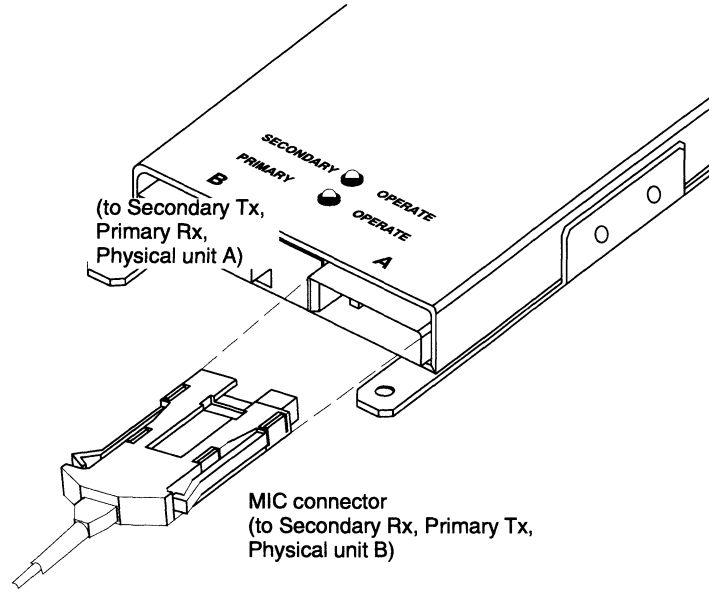

Figure 4-51 Attaching Optical Bypass Switch MIC Connectors
4. Connect the optical bypass switch to the FDDI ring by attaching the appropriate cables between the next device and the MIC receptacles on the optical bypass switch, as shown in Figure 4-51. Note that the MIC connectors are keyed; you can connect them only one way. See Table 4-12 for a list of cables offered by Data General.